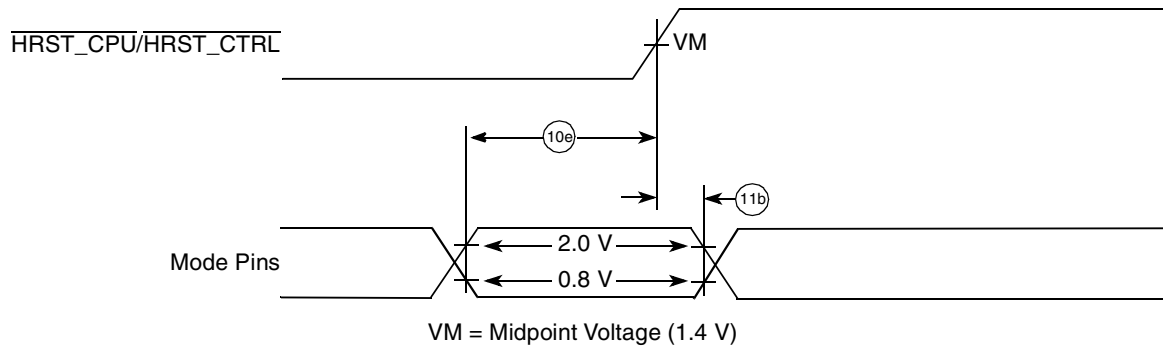

Figure 13. Input Timing Diagram for Mode Select Signals
- All mode select input signals specifications are measured from the TTL level (0.8 or 2.0 V) of the signal in question to the VM = 1.4 V of the rising edge of the HRST\_CPU/HRST\_CTRL signal. See Figure 13.
Figure 13 shows the input timing diagram for mode select signals.